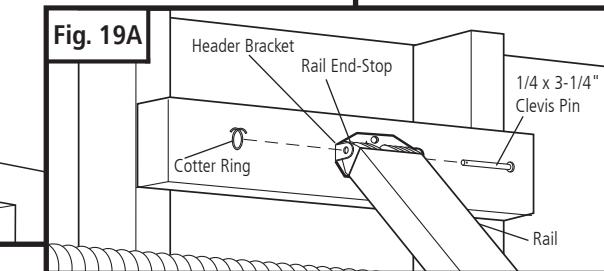

Fig. 19A
- Position rail end-stop within the openings in the header bracket. Insert header clevis pin (1/4" dia.) through header bracket and rail end-stop, then attach cotter ring to end of pin. (See Fig. 19A)